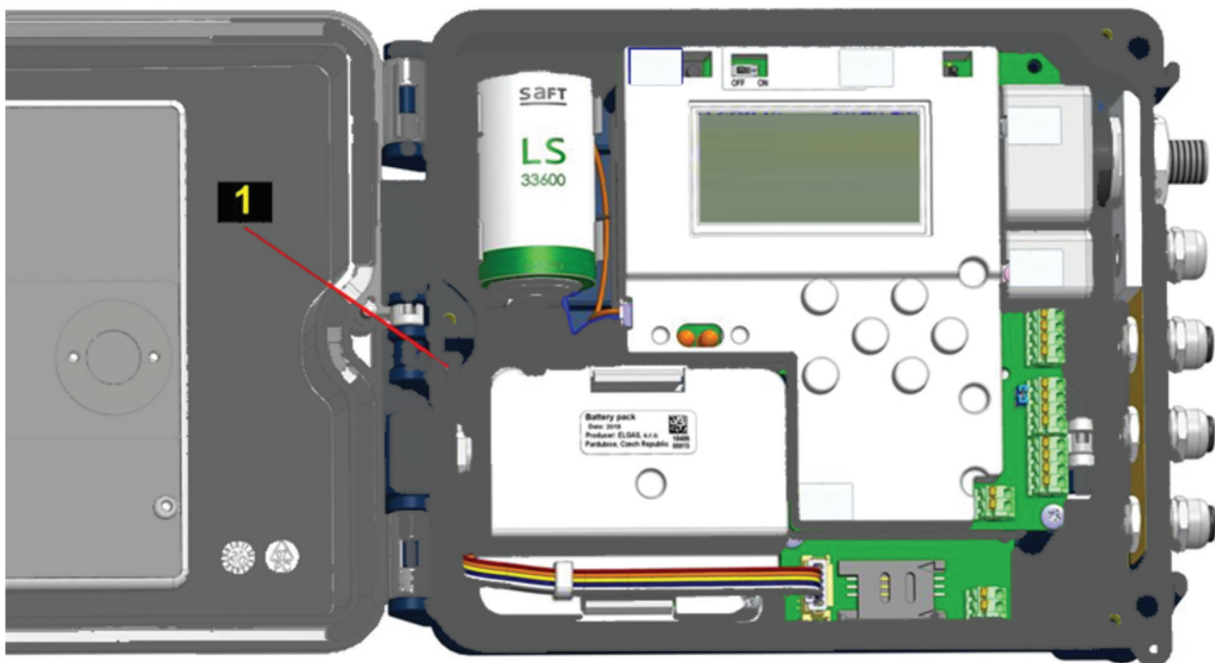

Fig. 45 Releasing the internal antenna cover
- If the device is going to be fitted to the mounting plate (or a wall), loosen the screw **1** (Fig. 45) that fixes the device to the mounting plate and also the modem's internal antenna cover.